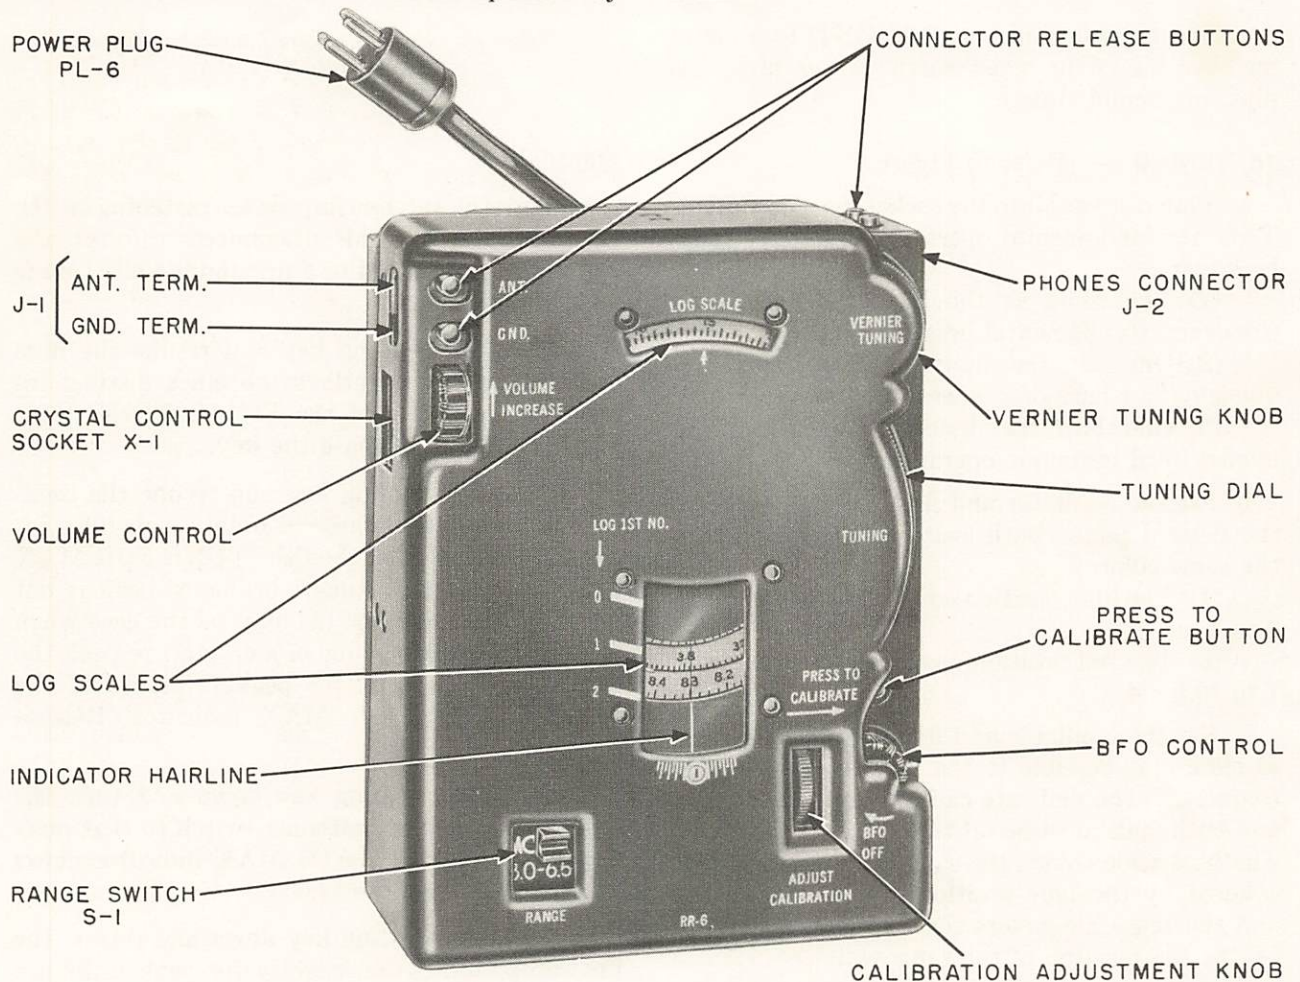

Figure 11. Receiver RR-6 showing control locations.
#### 18. CONTROLS AND FUNCTIONS—(See Figure 11)
(5) Turn ADJUST CALIBRATION (Figure 11) until the hairline coincides with the calibration point on the dial scale.
b. Set RANGE switch (Figure 11) for the proper frequency band:
- (1) Blue—Low band: 3—6.5 mc
- (2) Red—High band: 6.5—15 mc
a. Plug the specified crystal in CRYSTAL CONTROL socket (Figure 11).